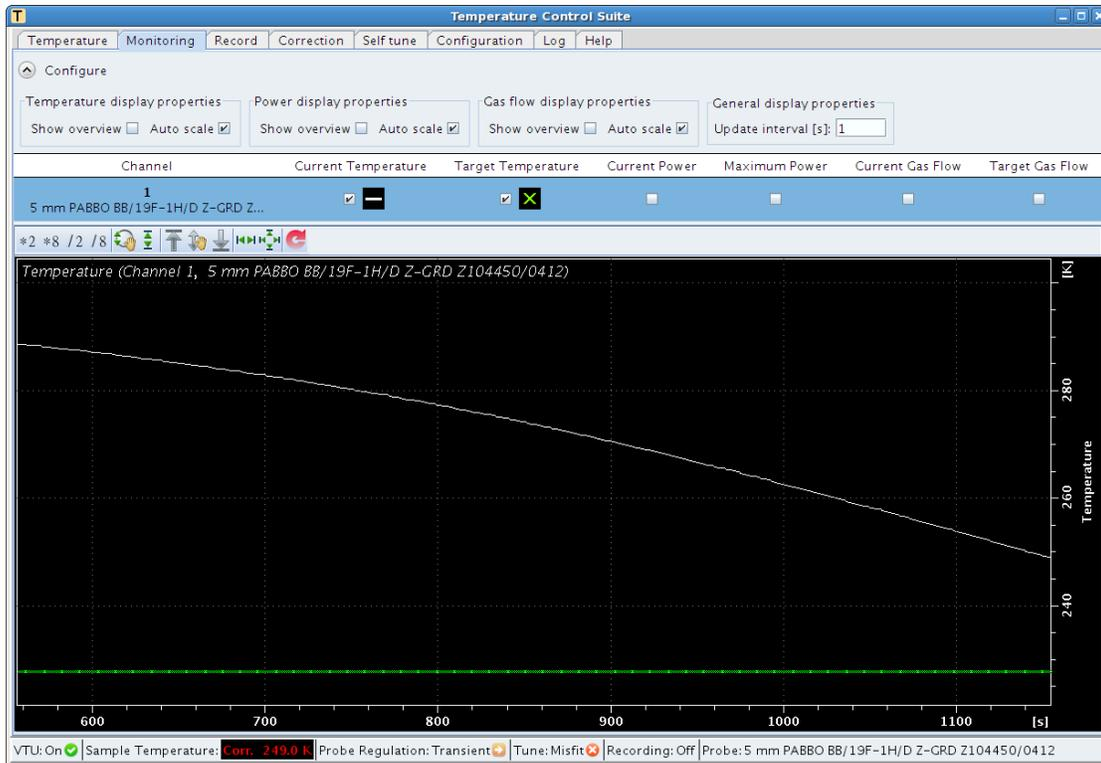

Figure 22: Sample Temperature Monitor
5. Now click on **Monitoring** Tab and check the boxes of *Current Temperature* and *Target Temperature* as shown in Figure 22. The current sample temperature slowly approaches to the target temperature.